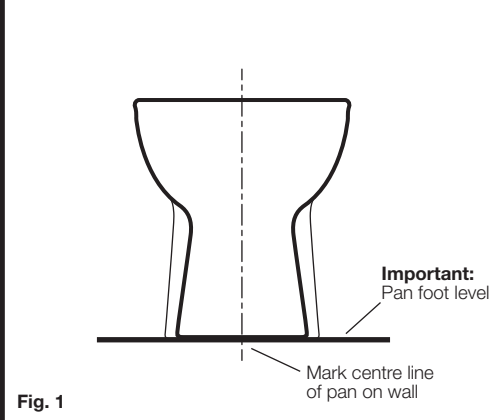

Fig. 1
- 1- Mark centre line of the pan on finished wall, as detailed in Fig. 1. This is to be used as a guide when connecting the pan.